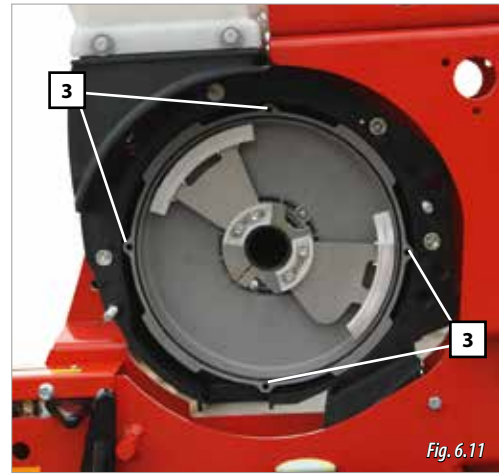

Fig. 6.11
- 3- The seed disc is secured magnetically. Use both hands to pull the disc to remove it. Once it has been removed, the vacuum chamber of the metering box will be visible (Fig. 6.11).
IMPORTANT: fit the tips of the seed disc's reverse into the holes of the metering box's vacuum chamber (3, Fig. 6.11).